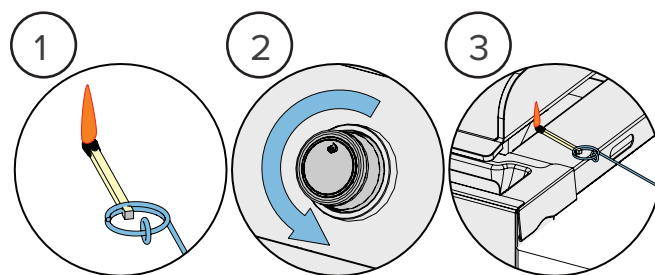

Fig. 2
3. While turning the corresponding burner knob to high. (Fig. 2)